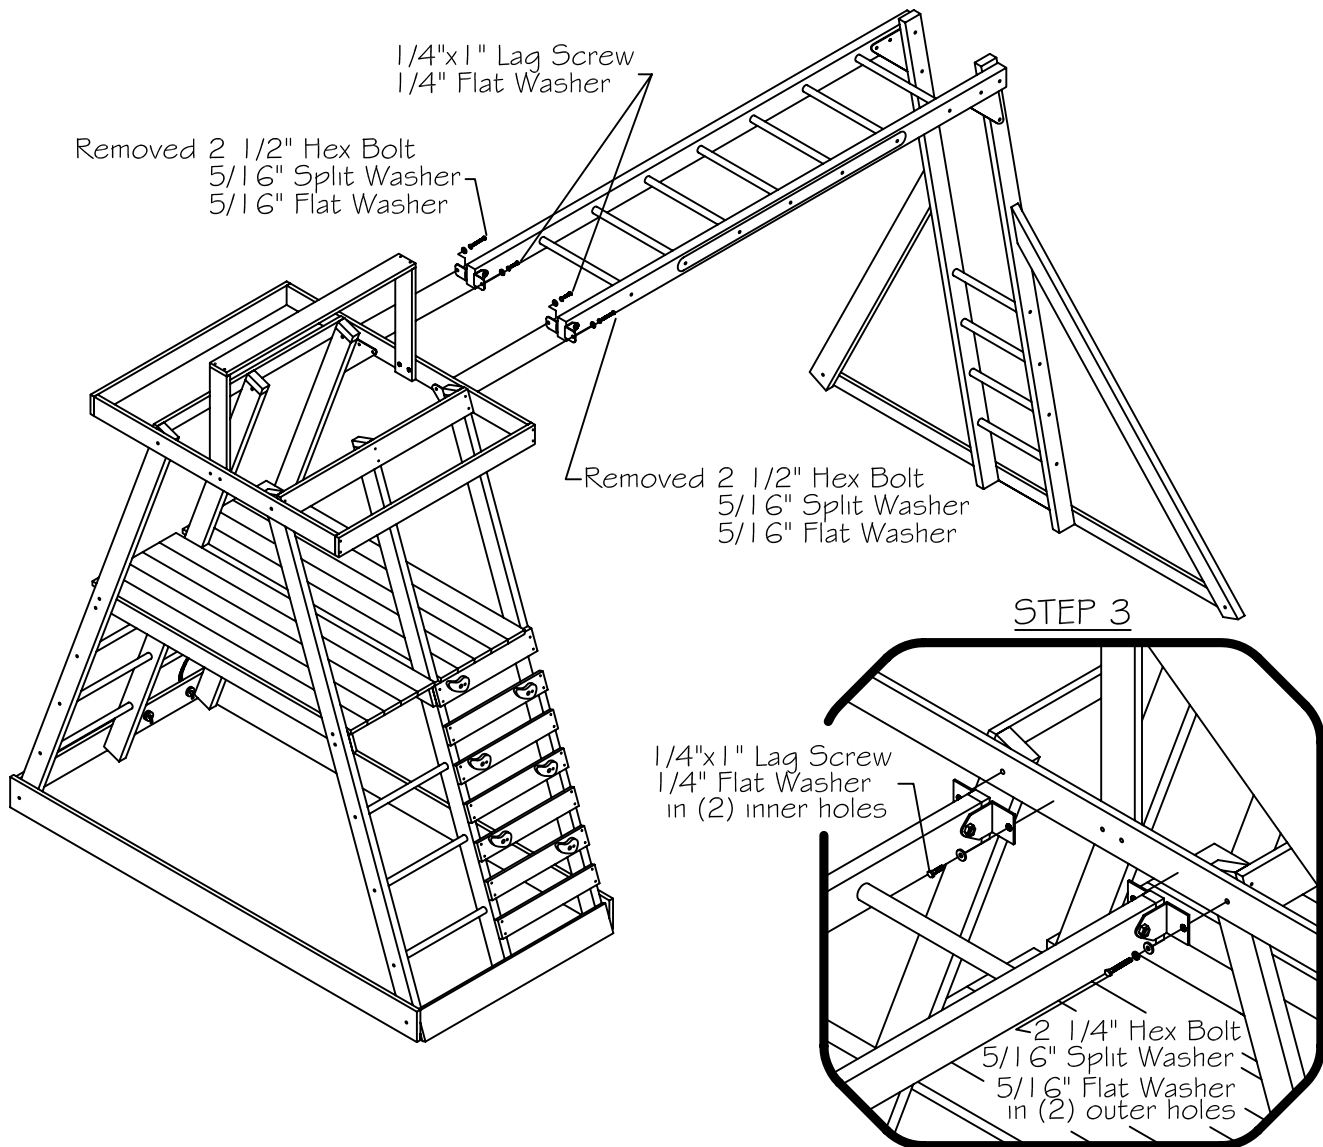

FIG. 16
Step 2: Remove the (2) 5/16"x2 1/2" Hex Bolts on the back of the unit which attaches tarp assembly to unit. (These bolts will be used in the same hole to attach monkey bar assembly.)
Step 3: Attach monkey bar to unit by placing the removed 5/16"x2 1/2" Hex bolts through the outside L-brackets and back through the same hole on the upright and by placing a 1/4"x1" lag screw through the inside L-brackets and into the cross brace. (see fig 16 for better view of attachment from backside)